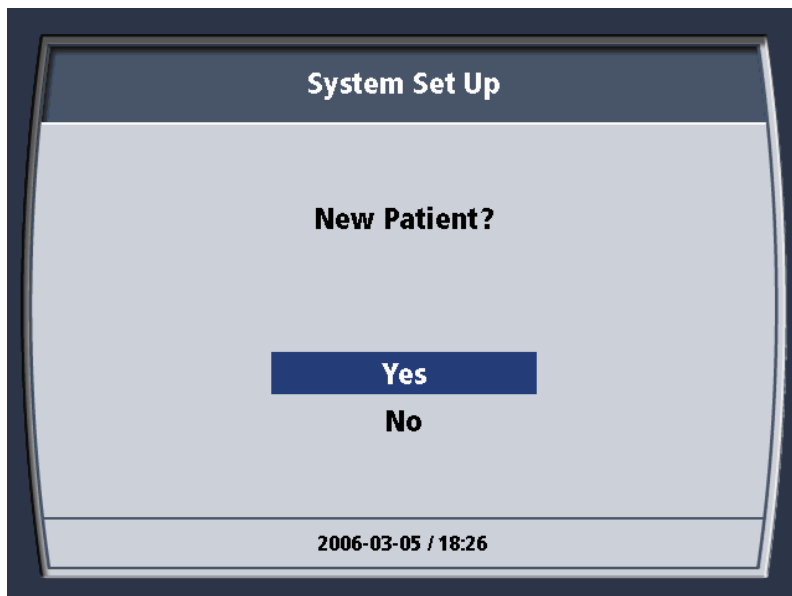

Figure 4.55. New Patient? Message
2. If you select “No” and press the knob, you will continue to be presented with screens that allow you to select operating parameters for the console prior to entering Standby starting at Figure 4.55— see below.